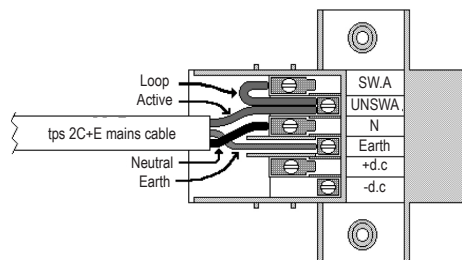

Figure 2: Quickfit Terminal Block Connection Diagram
4. Run the cables in the ceiling or wall space as appropriate or surface mounted in conduit and through the cable hole into the bracket. Strip, connect and terminate the cables as indicated in Figure 2. Note the loop between the switched and unswitched active terminals. Rarely, non-exit type Quickfits (like those used for emergency and other non-exit type directional or informational purposes eg: welcome, manager's office, toilets >, etc) may use a switched active supply for the normal lamp and an unswitched active supply for the emergency lamp. Exit type Quickfits more commonly have only an unswitched active supply which you will need to loop to the switched active terminal to power the normal lamp circuit within the fitting (if provided). Ensure that the double insulation of the cable/s passes completely into the terminal block enclosure so that no single insulation is exposed when the cover is in place. You will also need to mechanically protect them with a grommet, gland or bush as they pass through the opening in the mounting bracket. Likewise, the single insulation of the conductors should run right up to the metal edge of the terminals leaving no bare conductors outside of the terminals. Be careful with multi-strand conductors that all of the strands are twisted together before insertion into the terminal. Any stray strands that inadvertently come into contact with their neighbouring terminal or the metal frame of the fitting will cause undesirable results upon energisation.